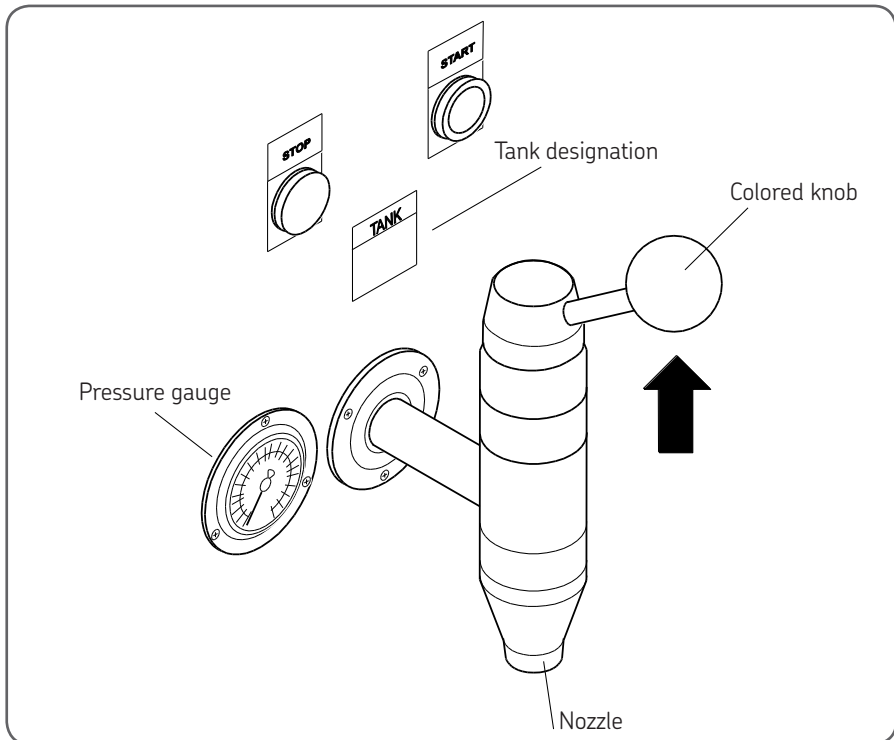

Fig 25 Operating the standard dispensing faucet
3. Lift up on the handle, see figure 25 (standard faucet style illustrated) – or depress handle if brass fire upgrade faucets have been ordered.